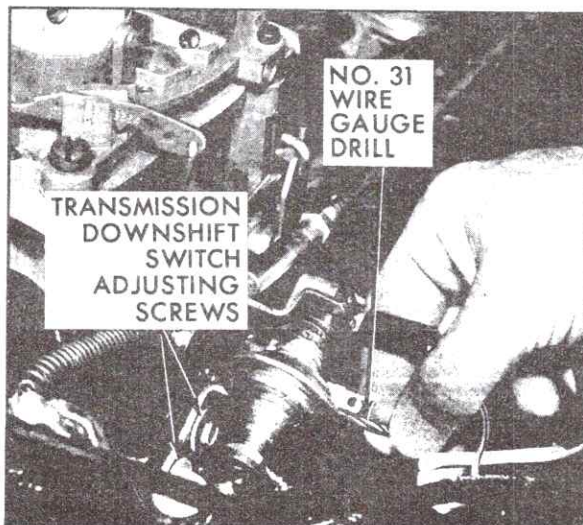

Fig. 6-110 Transmission Downshift Switch Adjustment
3. If transmission downshift switch is properly adjusted, Fig. 6-110, a #31 wire gage size drill or equivalent can be inserted through the calibrating hole below lower wire terminal extending through to carburetor side of switch.